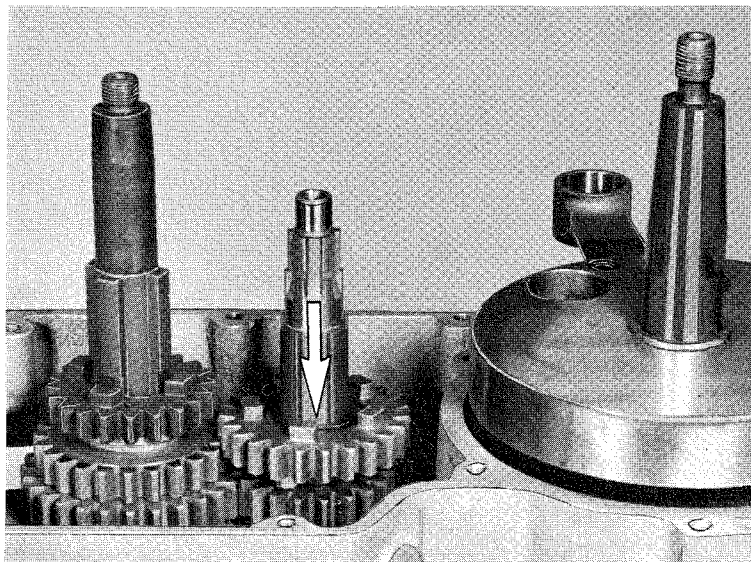

Fig. 7
7. Fit the clutchshaft through the bronze bushing in the left-hand half of the crankcase. See Fig. 7.